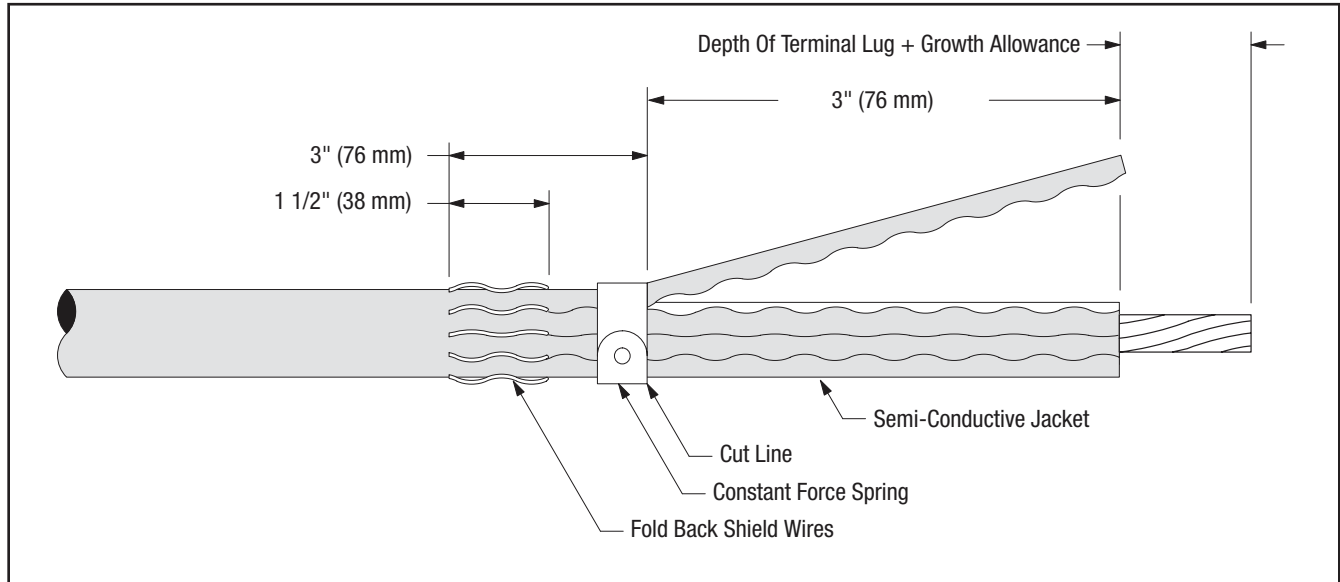

Figure 17
12.5 Remove semi-conductive jacket to dimension shown in *Figure 17*.
NOTE: To ease jacket removal, install constant force spring as shown in *Figure 17* and ring cut 80% through jacket. Remove jacket sections by pulling against constant force spring. **DO NOT BELL SEMI-CON JACKET.** Remove constant force spring.